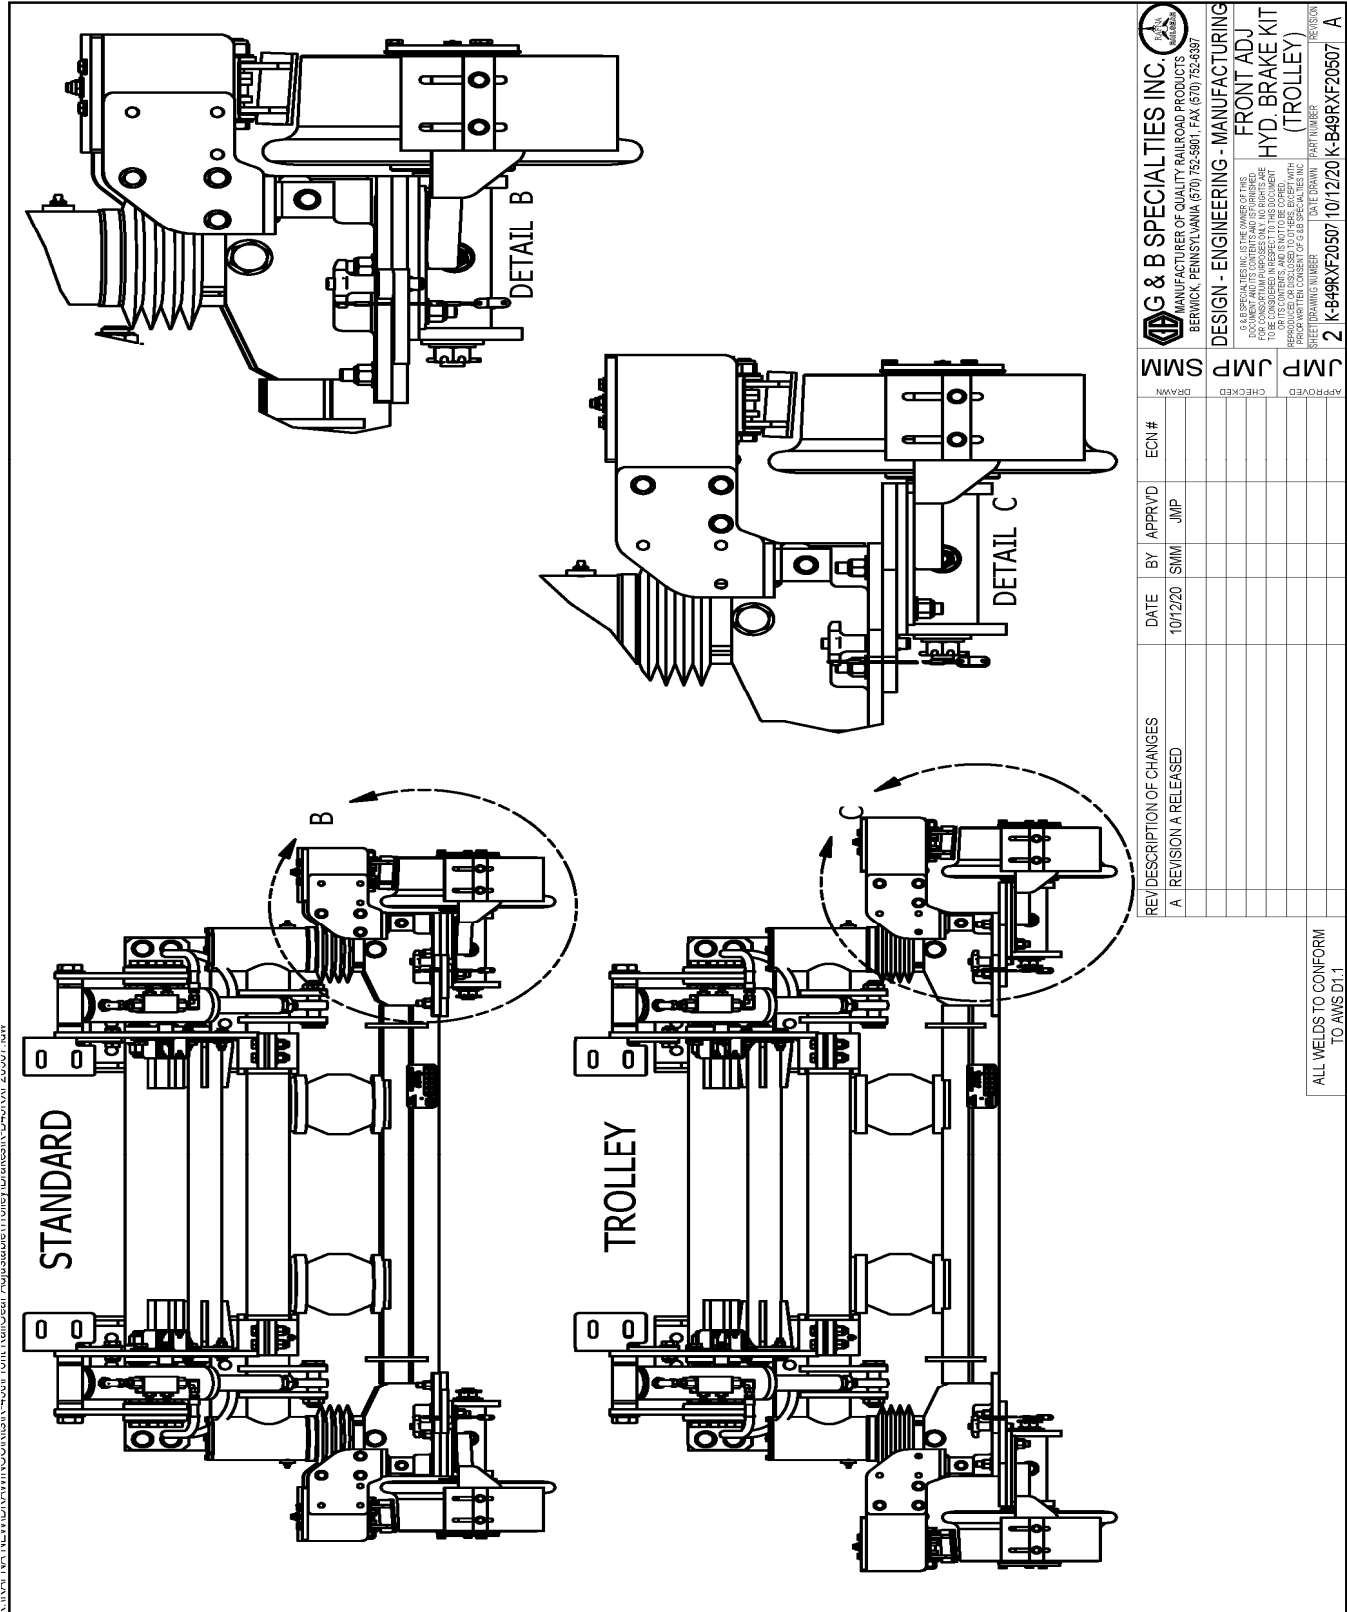

Figure 2: Brake Adjustment
4. Depending what gage the rail wheels are set for, the brakes may need to be adjusted. They will come set for Standard gage and will need to be adjusted for Trolley Gage. Please refer to Figure 2 and the Operations section of the manual to adjust the brakes.